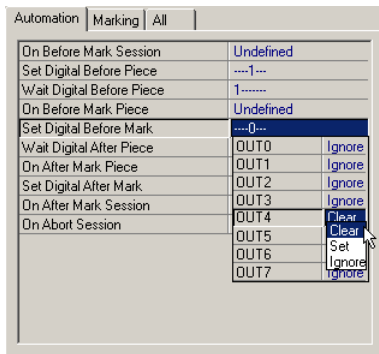

Figure 11-5 Clearing “Set Digital Before Mark”
- 2 Click *OUT4* then select *Clear* from the drop-down list (Figure 11-5).